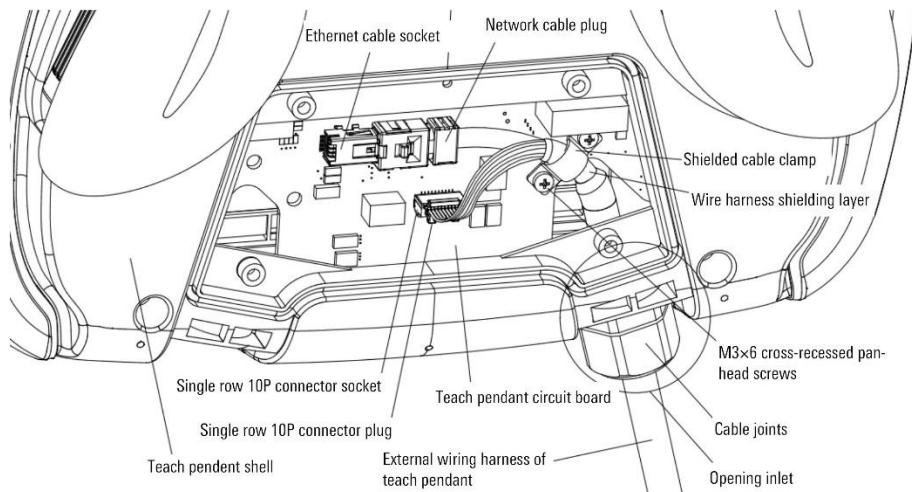

Figure 10-7 Diagram of replacing the external wiring harness of the teaching pendant 2
Step2. Insert the external wire harness of the teach pendant through the opening on the lower right side of the teach pendant housing, clamp the cable connector in the opening, and use 2 M3×6 cross-recessed pan-head screws to press the wire harness shielding layer onto the shield clamp, refer to Figure 10-7.
Step3. Connect the end of the external wiring harness of the teach pendant with the network cable plug to the network cable socket on the circuit board of the teach pendant. Connect the power and signal cable connectors to the single-row 10P connector socket on the circuit board of the teach pendant. Refer to Figure 10-7.